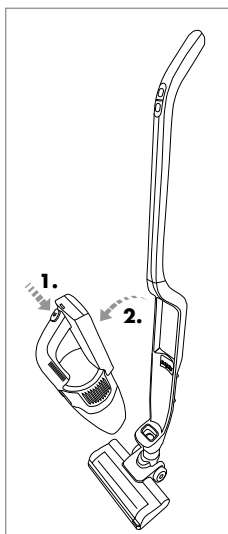

Fig. 4
- 3) To remove the hand element **3** from the handle rod **12**, hold the hand element **3** by the grip **2** and press the release button **1**. Pull the hand element **3** forward out of the hand element recess **14** (Fig. 4).